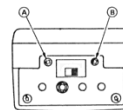

Fig. 5
- (1) Select the desired tone from the chart below.
- (2) Install the correct values of R₅₀₁ and R₅₀₂ for the tone frequency desired. Refer again to the chart. Use only 1% tolerance resistors.
- (3) If the tone frequency is 127.3 Hz or higher, install a solder bridge across the foil at point 1 on the Tone Squelch Unit, and another solder bridge at point 2.
- (4) Remove screws A and B in Fig. 5, and remove the back cover of the transceiver.